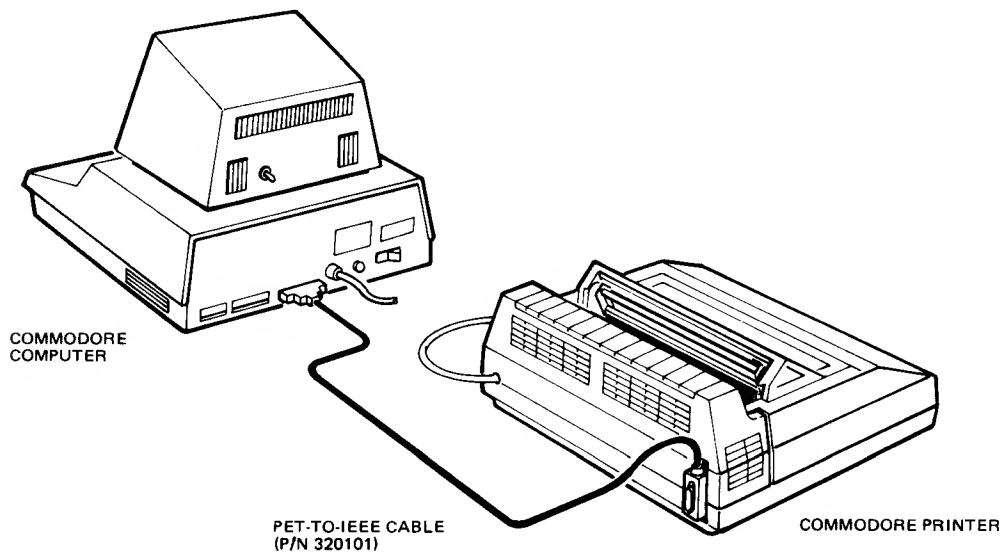
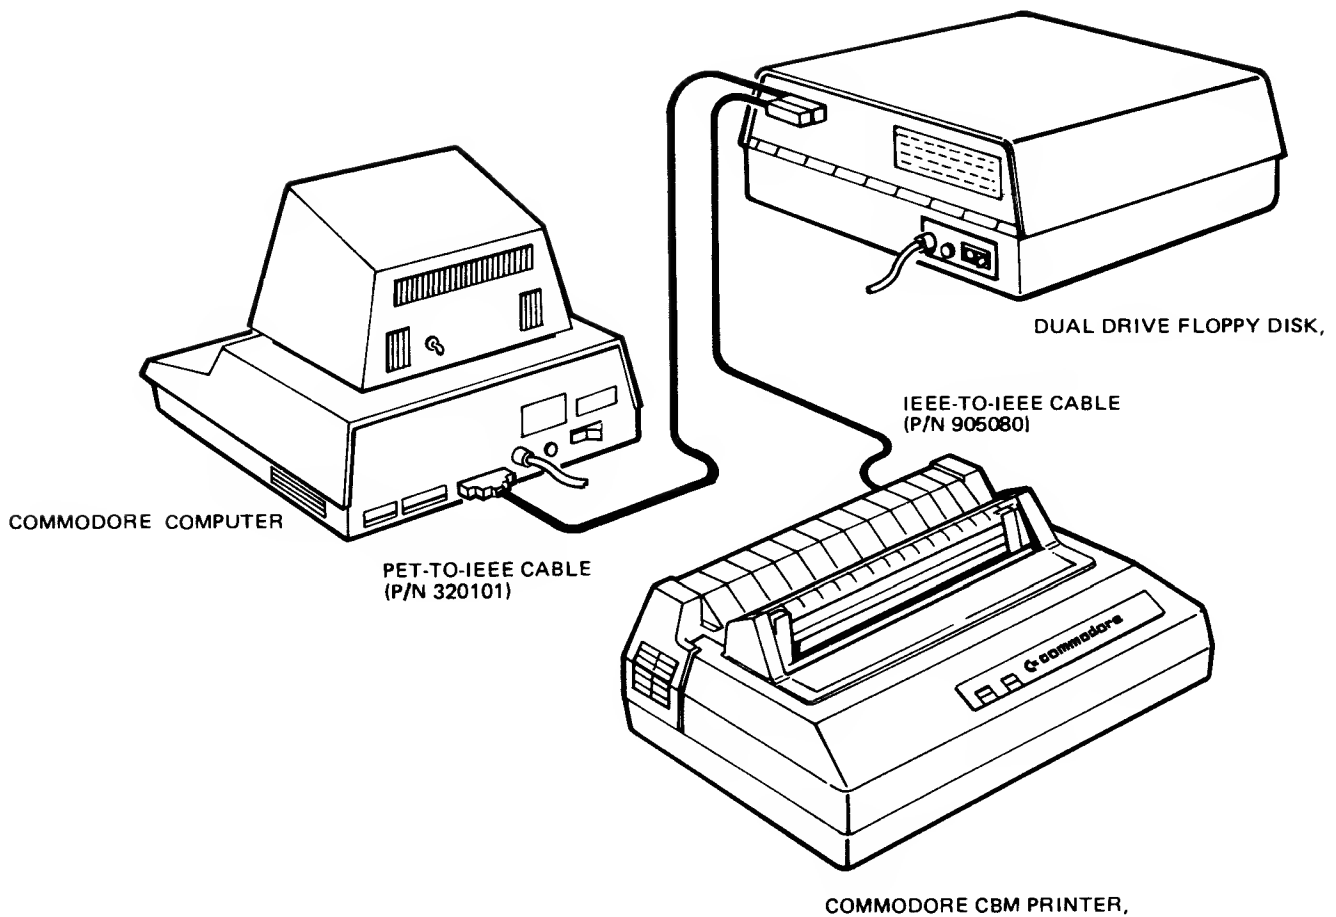

Figure 3. Printer to Computer Hookup
Figure 4. Multiple Hookup
3. If you are using the PET-to-IEEE cable, connect the cable between the IEEE-488 interface connector on your computer and the connector on the printer as shown in Figure 3. If you are using the IEEE-to-IEEE cable, connect the printer in a configuration similar to that shown in Figure 4.